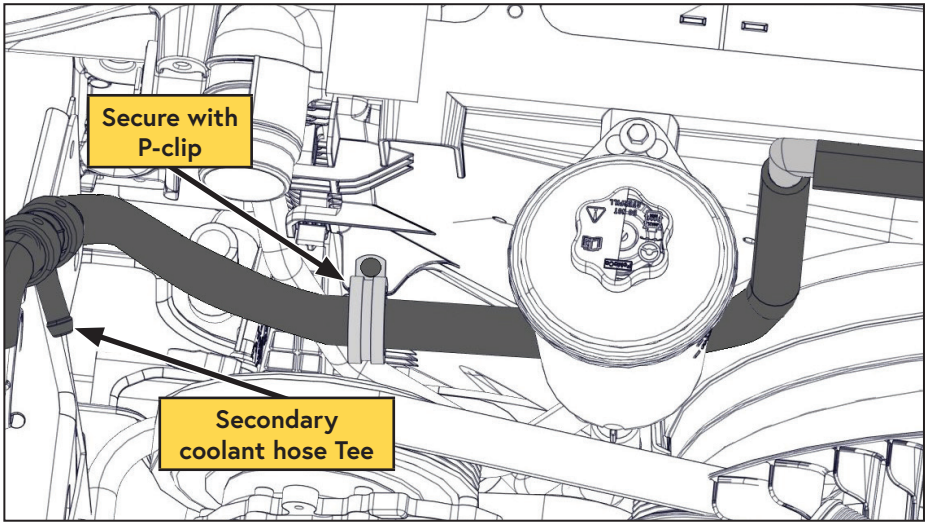

Figure 93 — Installing the secondary coolant hose
- ☐ Route the hose down, past the power steering reservoir, then up toward the top of the radiator (Figure 93).
- ☐ Using the supplied P-clip, secure the hose to the radiator shroud in the location indicated (Figure 93).
- ☐ Connect the smaller hose to the secondary cooling Tee and secure it to the degas tank bracket using the supplied P-clip and fastener (Figure 93).